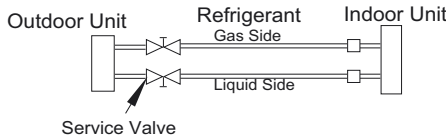

Fig. 23 — Service Valves
1. Completely tighten the flare nuts of the liquid and gas pipes on the indoor and outdoor side (for all fan coils) (see Fig. 23).
4. Connect the charge hose to the vacuum pump (see Fig. 23).